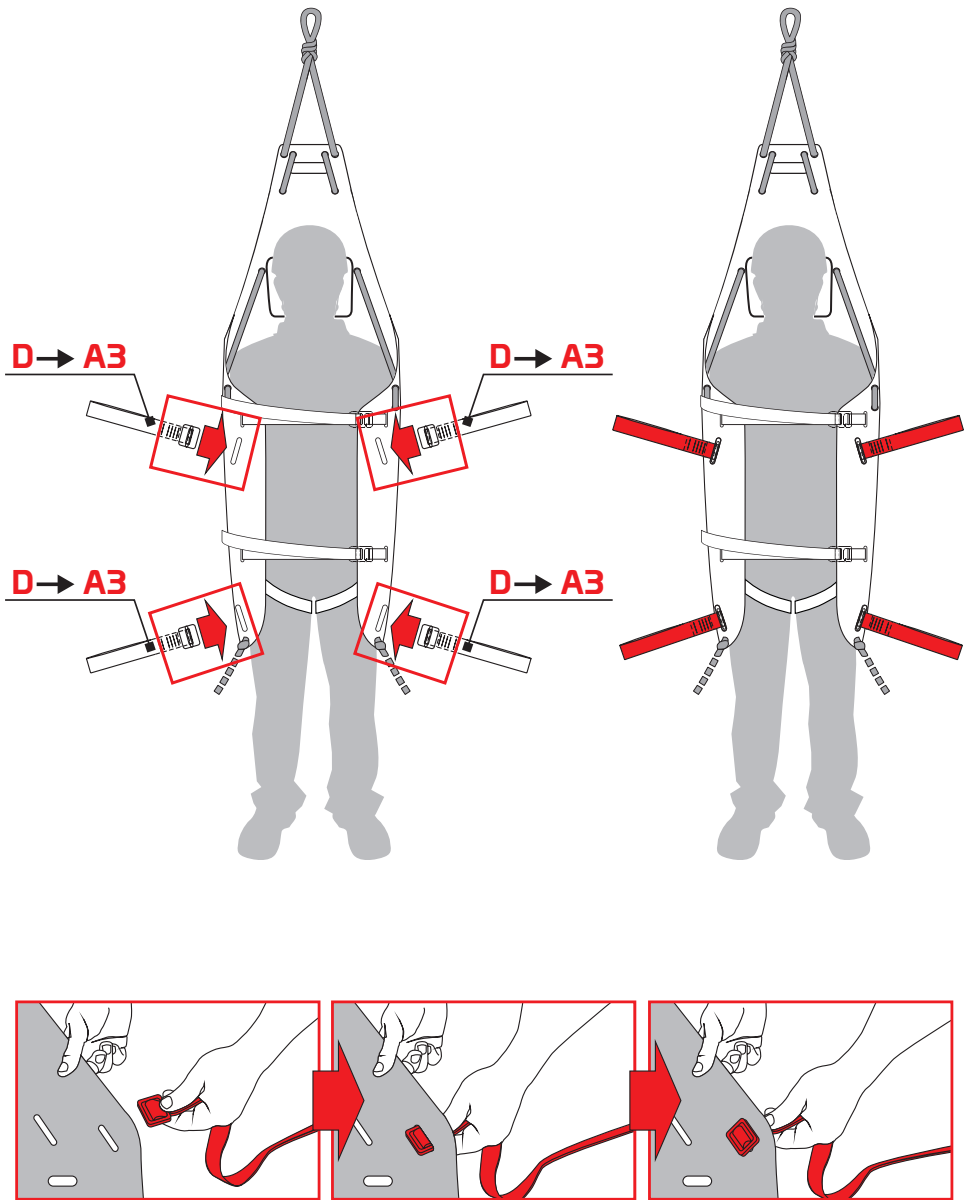

Fig.13
b) Manual transport: insert the side handles (D) in the A3 eyelets in the support surface (fig. 13).